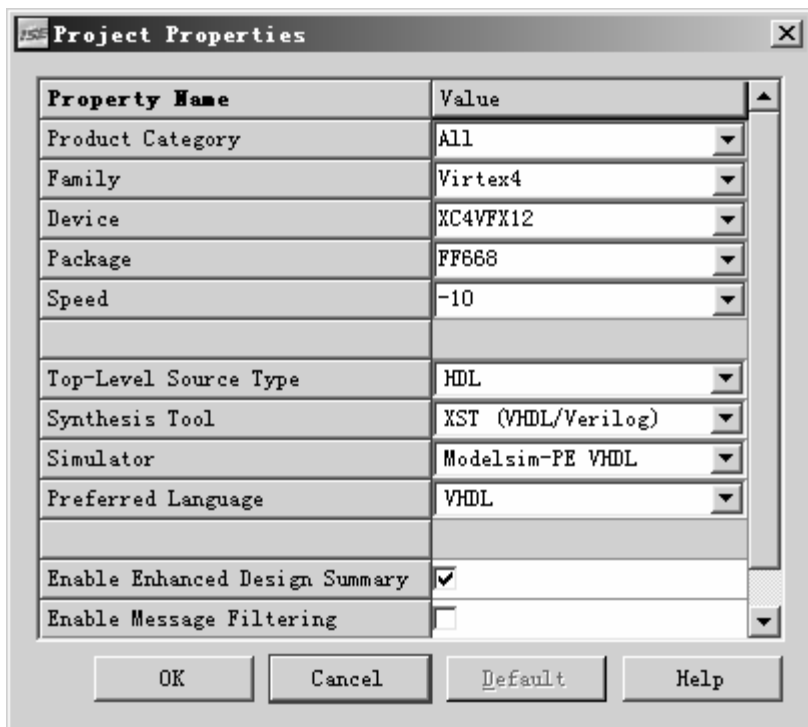

Figure 22: New Project - Device and Design Flow
- Click **Next**. Configure the Device and Design flow as shown in Figure 22. It should be noted that these settings need to be consistent with the XPS project settings.